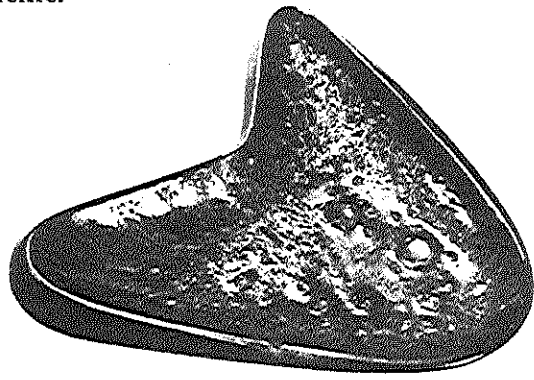

Fig. 14 Excess of glaze
**Excessive Application of Glaze**—The piece shown in Fig. 14 is an outstanding example of the type of surface which can result from too heavy an application of glaze. This type of error is extremely difficult to salvage, and it should indicate the need for lighter application of glaze on future pieces.